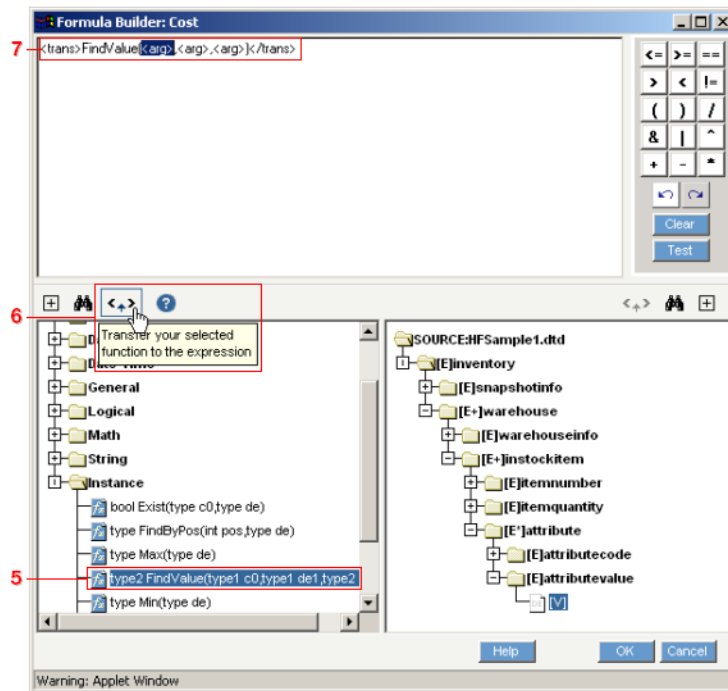

Figure 23-2. Start your expression by inserting the **FindValue()** function.
- 7 The new expression appears in the pane at the top of the dialog (see Figure 23-2 below).